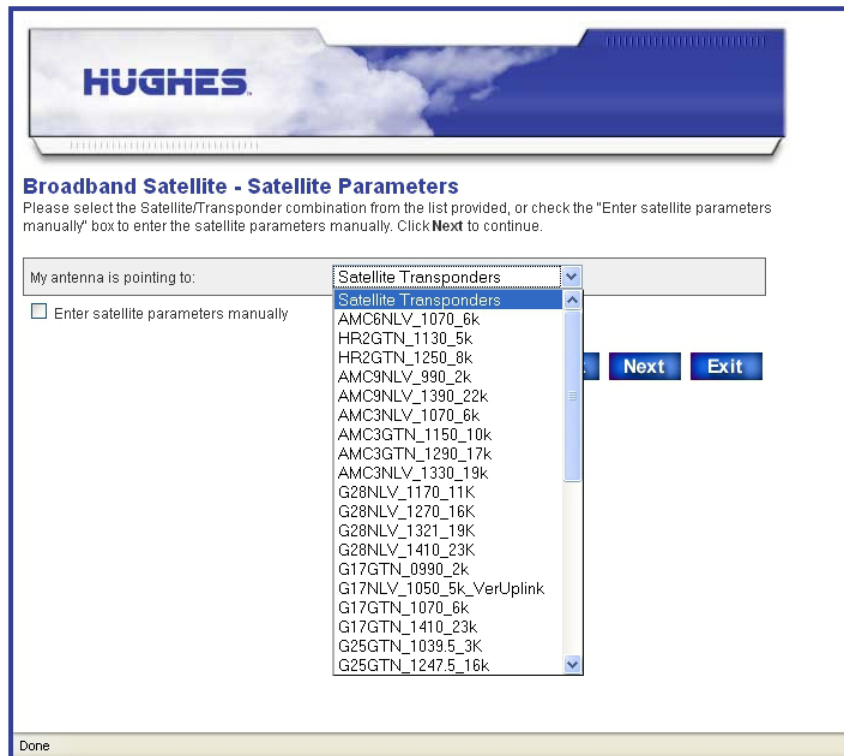

Figure 18: Satellite Parameters screen
**Note:** The list of satellite transponders may be updated at any time, so you may see different transponders than those shown in Figure 18.
This is an alternate method for entering the satellite parameters. You must use this method if the satellite and transponder for your installation are not listed in the drop-down list in Figure 18 on page 38 *and* you were not provided with an `sbccfg` file.
1. On the Satellite Parameters screen, select the *Enter satellite parameters manually* checkbox shown in Figure 18 on page 38.